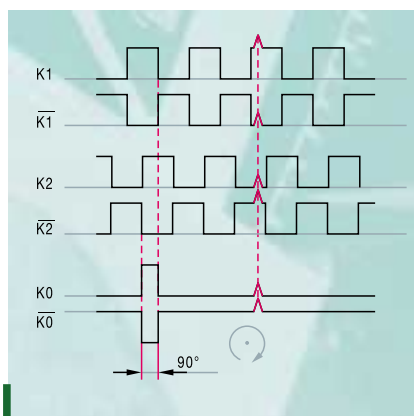

Figure 3: Squarewave signals from a double channel Digital-Tacho with marker pulse and inverted signals for suppressing superimposed interference (➔ page 24).
Digital-Tachos output a series of **square-wave** pulses (➔ Figure 3) when the shaft is turned, the number of pulses being proportional to the angle turned. The number of pulses counted from a reference point (marker pulse) is a direct measure of the angle or **position**, whereas the **rotational speed** is calculated from the number of pulses per unit time.
- **Dual channel** Digital-Tachos with a **marker pulse** (reference signal): the additional marker pulse K0, synchronized with the two output signals K1 and K2 (➔ Figure 3 and 4), enables counting full revolutions.
- **Inverted signals** increase the signal to noise ratio of the signal transmission (➔ *Optimum Signal Transmission*, page 24): In addition to the output signals K1, K2, K0, the inverted output signals $\bar{K1}$, $\bar{K2}$ and $\bar{K0}$ are available (➔ Figure 3 and 4, standard for TTL squarewave and sinewave signals).